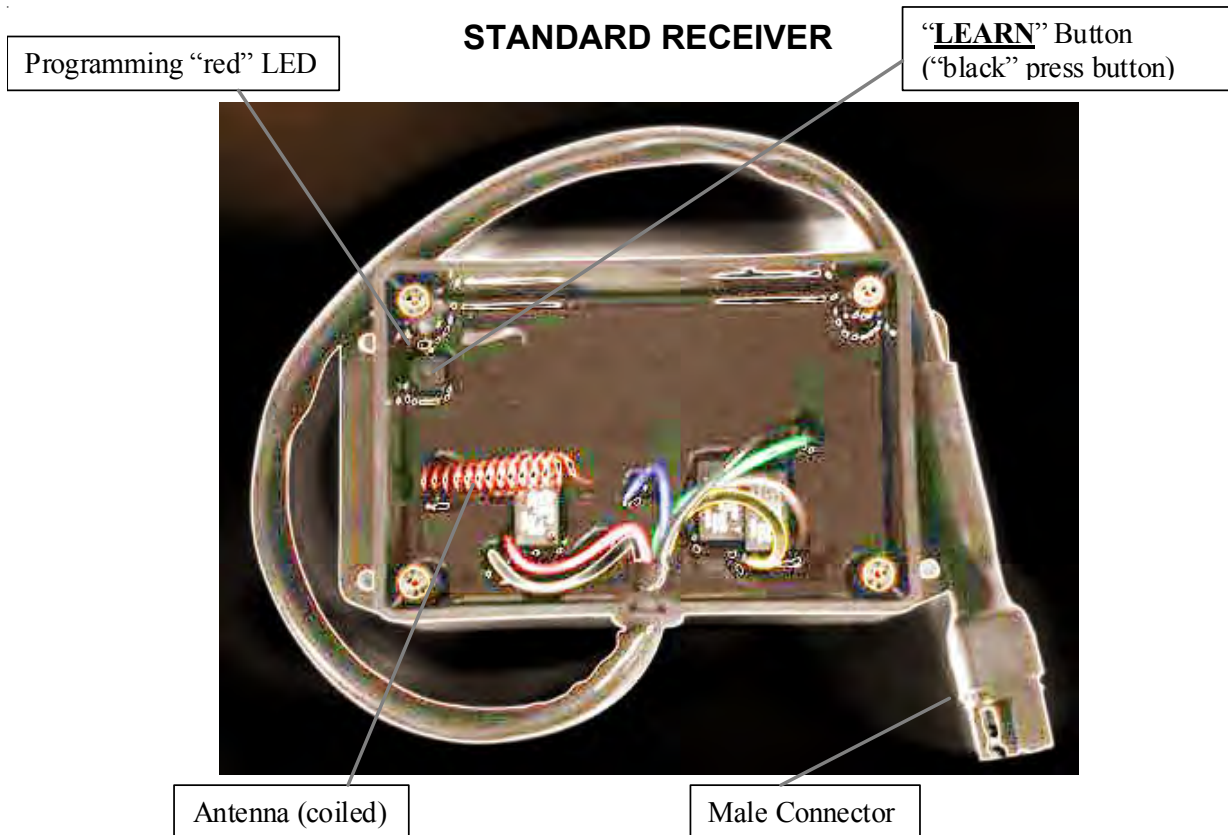

Fig. 3: Base Unit layout (Figure shown without Base Unit Cover)
1. Remove (4) screws and cover on Base Unit.
2. Power-up the Base Unit. Connect a 12V power source to the spreader 12V battery terminals and plug the engine wire harness to the Base Unit wire harness (see Male Connector in Fig. 3). **DO NOT DISCONNECT THE BATTERY TERMINALS** from the 12V source when engine is running.
5. On the Base Unit (see Fig. 3) press the black "**LEARN**" button. The "red" LED will start to blink (for approximately 15-17 seconds).
7. Verify the (5) functional buttons (Buttons #1, #3, #4, #5, & #6) on the Transmitter are working with the Spreader Unit by pressing each button, individually (the Base Unit "red" LED will flash when a Transmitter button is pressed). If Transmitter buttons are not working, repeat steps 3 – 8 or see the Trouble shooting directions.
8. When Transmitter buttons are functioning properly, re-assemble the Cover on the Base Unit with the (4) screws. Your Meyer Products Wireless Controller is now ready to use!